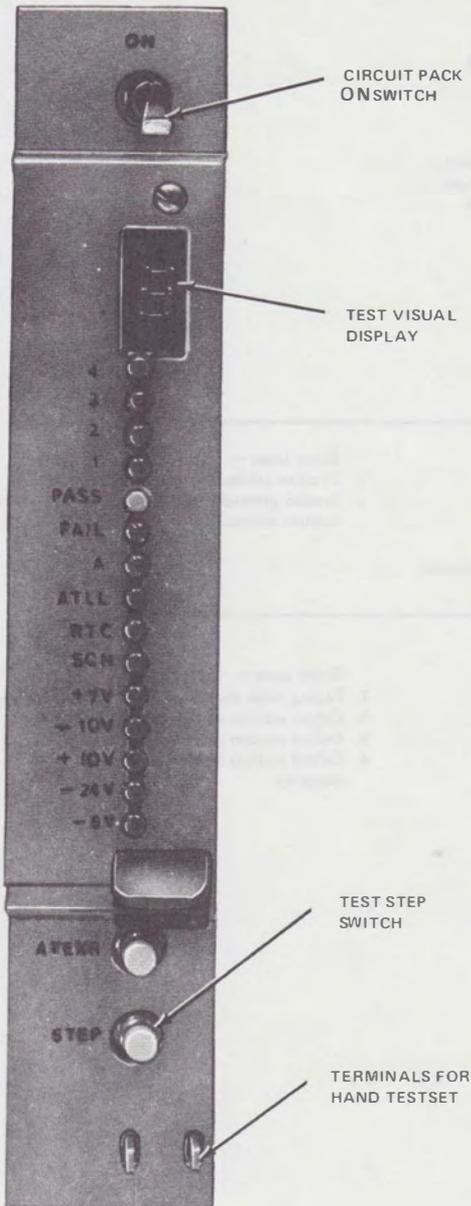
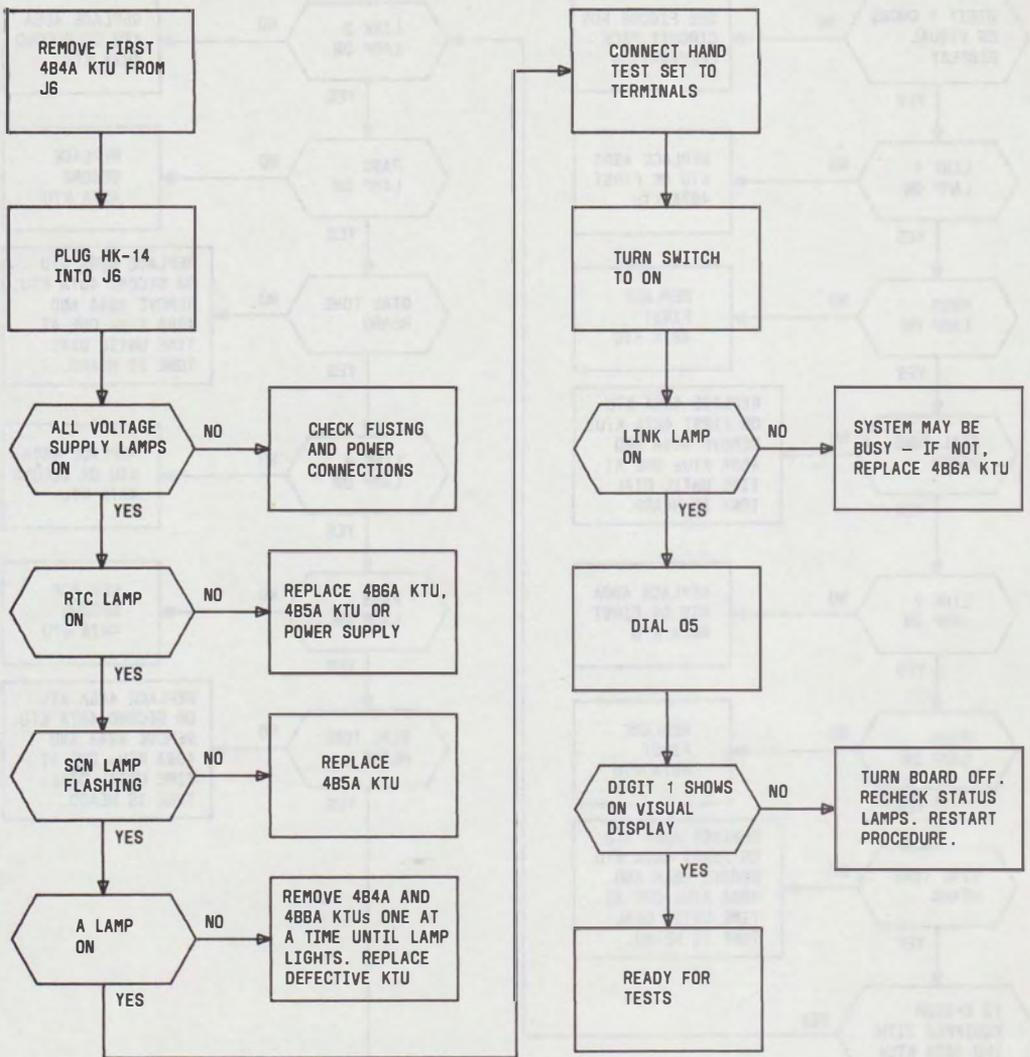

Fig. 8—HK-14 Circuit Pack Faceplate
Fig. 19—HK-14 Diagnostic Circuit Pack Preparation
**6.04** These tests require the use of the optional HK-14 circuit pack (Fig. 8) and a 1013-type hand test set. Maintenance operations involving the HK-14 circuit pack should be performed by 2nd-tier maintenance personnel only. Using the test sequences, the status of the major signaling busses and the system power for all links can be tested. Visual signals are provided on the circuit pack and audible tones heard in the hand test set.
2 and if provided, links 3 and 4. The test will then be repeated unless the STEP switch is depressed or the circuit pack turned off. If the STEP switch is depressed, the circuit pack will make the next test of each link in sequence. The test being made is displayed visually (Fig. 8). If it is desired to make a particular test, the circuit pack must be stepped until the proper digit or letter is displayed. Refer to Table P and Fig. 19 through 30 for the circuit pack preparation sequence and the individual test sequences.